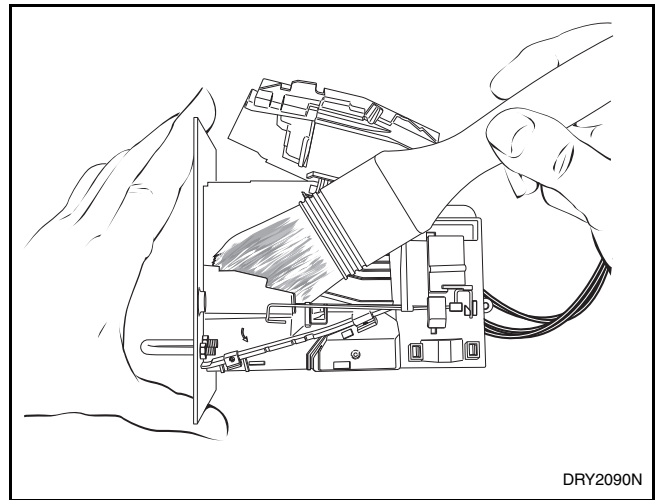

Figure 19
- e. Clean the coin path with a soft brush and wipe exposed surfaces with an alcohol moistened cloth. Refer to *Figure 19*.